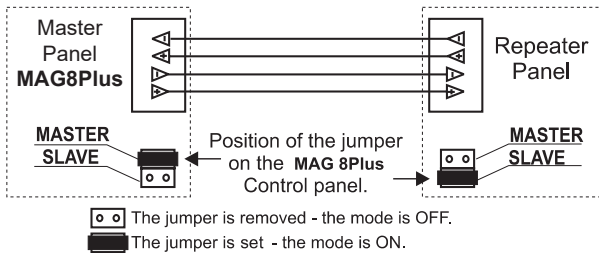

Figure 20. Connecting between Repeater and Master Panel.
Figure 20 shows the connection between the Master and Slave MAG8Plus panels.
- Connect the repeater to the first MAG8Plus - see Figures 20, 21 and 22.